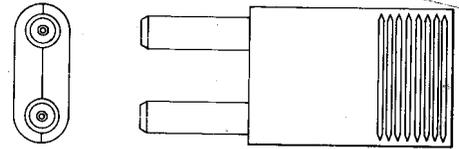

Fig. 2—516A Plug
2.02 516A: The 516A (Fig. 2) is a hair-pin, patch plug that consists of a pair of coaxial plug fingers assembled in a metal shell. The 516A plug mates with the 558A and 560A jacks and is used on the 400A Protection Switching System.